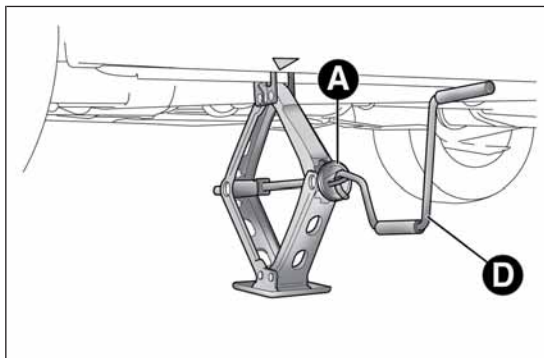
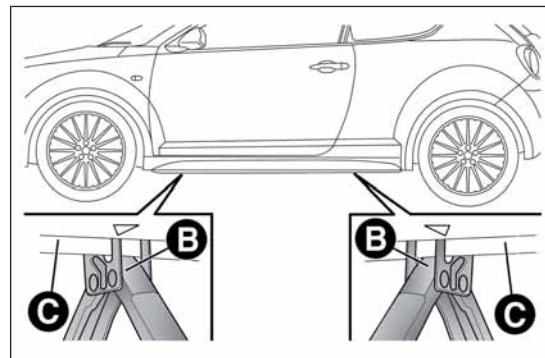

fig. 119
fig. 120
- operate the device A fig. 119 so as to extend the jack, until the upper part B fig. 120 is inserted correctly inside the side member C;
- fit handle D fig. 119 into the housing in device A, operate the jack and raise the car until the wheel is a few centimetres from the ground;
- ❑ operate the jack handle D fig. 119 to lower the vehicle. Then extract the jack;